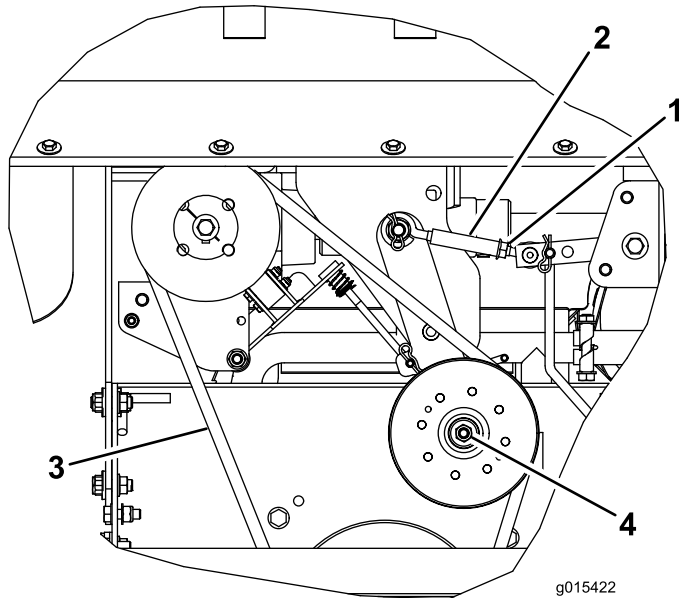

Figure 11
Visually inspect the belt (Figure 11), looking for dirt, wear, cracks, and signs of overheating. If belt is excessively worn or shows any signs of damage, replace the belt.
Note: Figure 11 shows the belt viewed from underneath but the belt can be checked, adjusted or replaced from either the top or the bottom after the removal of the relevant guard.
To replace the belt, complete the following procedure, referring to Figure 11 throughout:
The proper mower belt tension is 10 lb (4.5 kg) of force to deflect the belt 1/2 inch (13 mm) at the midpoint of the longest span (Figure 11).
- A. Loosen the locknut (Figure 11)